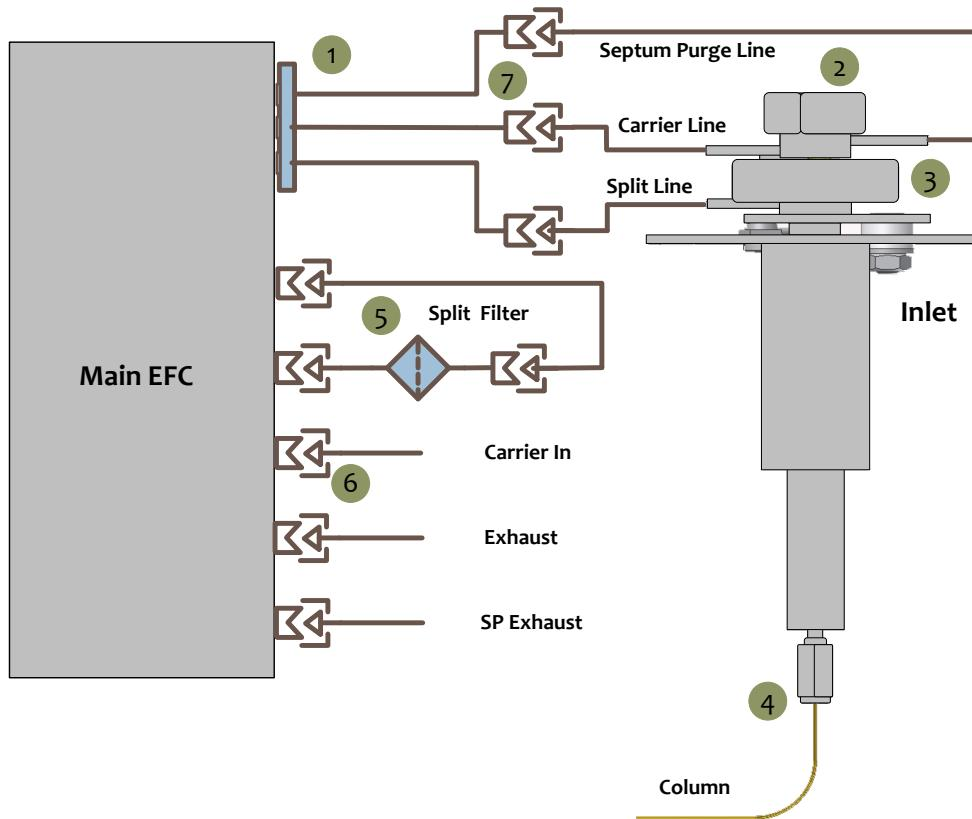

Figure 11.1 Critical Connections for Leak Checking
10. While the inlet port is under pressure, check for a leak with a leak detector. The most critical connections to be checked are shown in the Fig. 11.1 below: